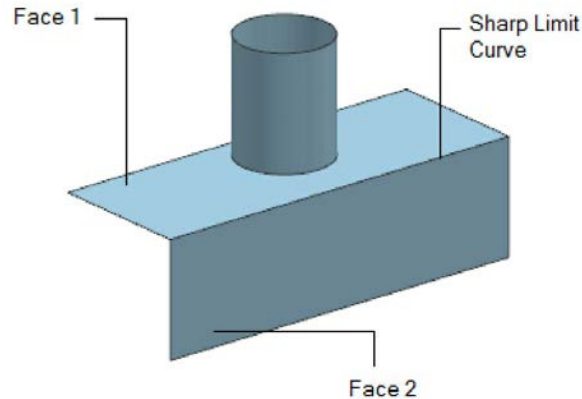

Figure 11-33 Faces to be selected
2. Select the first chain face, refer to Figure 11-33 and make sure that the normal vector points in the upward direction.
3. Choose the second **Face** button from the **Faces** rollout; you will be prompted to select the faces to blend. Select the second chain face, refer to Figure 11-33.
4. Choose the **Curve** button from the **Width Limits** rollout; you will be prompted to select the sharp limit curve. Select the limit curve, refer to Figure 11-33.